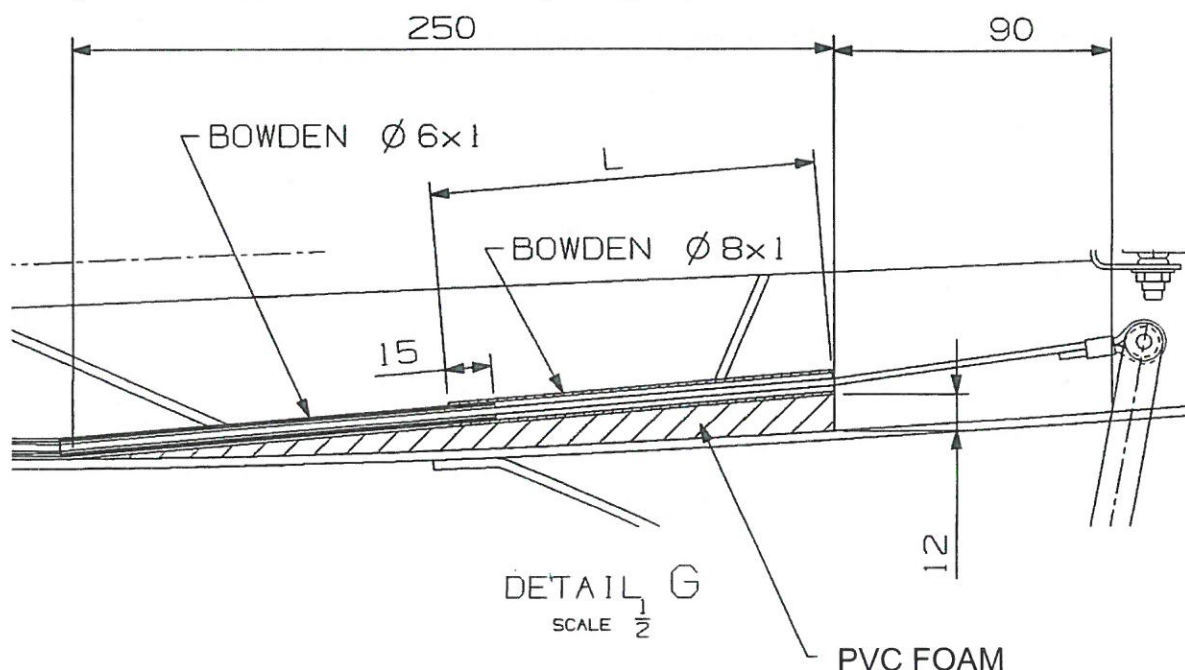

Fig. 1 Scheme of Bowden cable's on PVC foam (side elevation)
- d) Prepare PVC foam (acc to Fig. 1 and Fig. 2), fitting its shape to the fuselage.